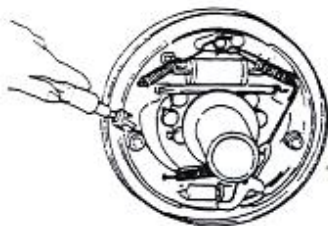

Figure 2-13
- (3) Remove the fixing spring on the main brake shoe. See figure 2-13